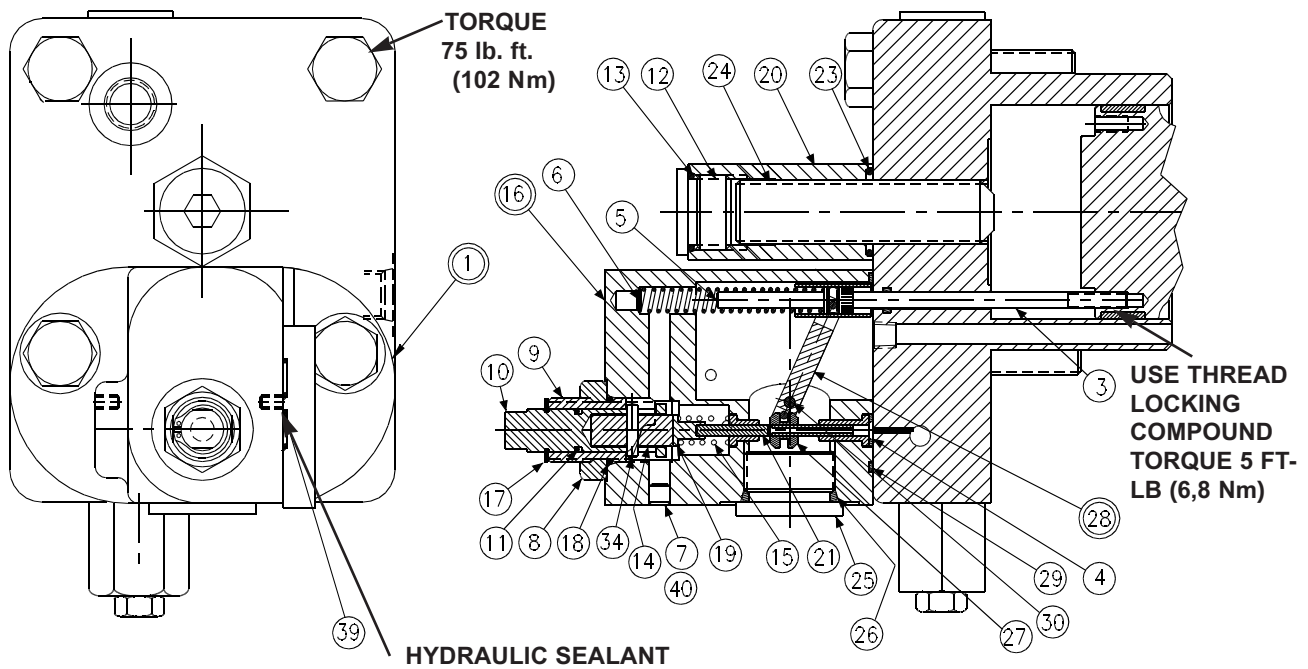

FIGURE 15
**PARTS LIST FOR FIGURE 15
1. **See Figure 15.** Remove 2 screws holding body (16) to cap assembly (1).
2. Remove all parts from body (16) except pin (30) and arm assembly (28). It is not necessary to remove these parts unless broken or worn. Examine parts for wear or damage.
3. Remove screw (3). Examine head for excessive wear, and body for smooth sealing surface with O-ring.
2. Install spool (4) into bore as shown. Install spring (8) over end of spool.
3. Install plug with stop (14) and O-ring (13) into plug (3).
4. Install O-rings (7) and (16) on plug (3). Install plugs (3) and (9) into body (1).
5. Install orifices (20) and (21) and plugs (10). Torque plugs. Install O-ring (5) in cap.
8. **See Figure 15.** Apply thread locking compound on threads of screw (3), lubricate the shank, thread through the cap into the control piston, and torque to 5 lb. ft. (6,78 N m).
9. Install minimum stop screw (24) and turn clockwise to stroke pump to full stroke. Measure height from control cap to top of screw (3). With control piston at full stroke, dimension must be .67 +/- .03 in. (16,9 +/- 0,76 mm). Back out minimum stop screw (24) till there is no contact with control piston.
10. Press dowel (30) into body (16), through the link (28), to 1/4 in. (6.35 mm) below surface. Apply hydraulic sealant to threads of screws (39) and install over dowel (30).
11. Press spool (21) into retainer (19). Caution: do not use excessive force.
12. While sleeve (27) is engaged into dowel on link (28), slide above spool assembly with spring (15) into bore of body (16), and through sleeve (27). Spool (21) must move freely and easily at all positions of the link (28).
13. Press dowel (34) through slide pin (14), while inside shaft (10). Dowel (34) must evenly extend from both sides of slide pin (14).